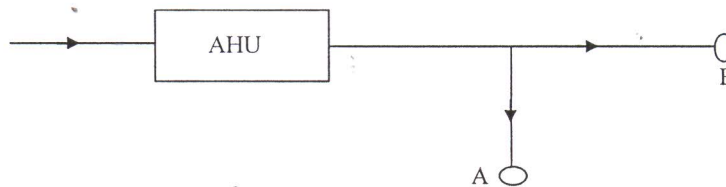
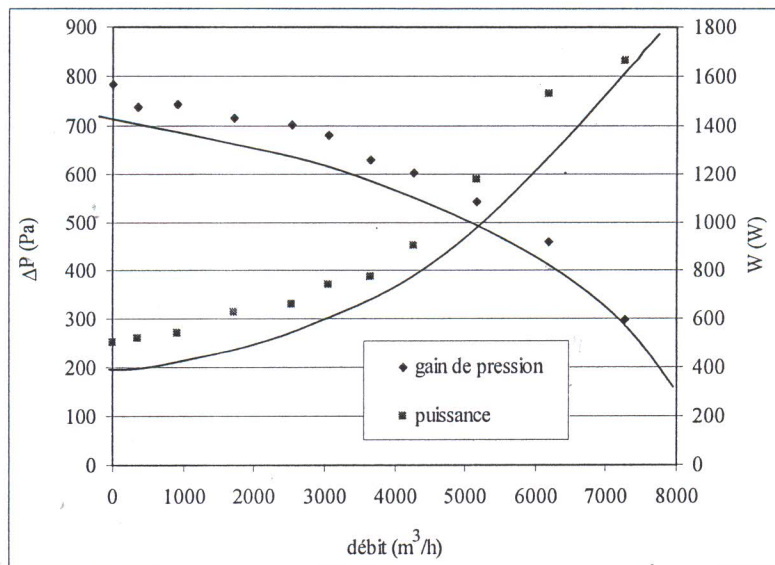

Figure 3: Air distribution network
Figure 4: Characteristics of the selected fan (problem 3)
We consider the air distribution network represented on Figure 3. The desired flows are $5000 \text{ m}^3 / \text{h}$ in the main duct (diameter 500 mm), $3200 \text{ m}^3 / \text{h}$ in branch A (diameter 300 mm - length 25 m) and $1800 \text{ m}^3 / \text{h}$ in the branch B (diameter 250 mm - length 28 m). We wish to use the fan, to ensure this flow rate. The fan characteristics are given on Figure 4 and in Table II.
- (b) Determine the point of operation of the installation if the fan feeds the network of Figure 3. This operation is it as per the specification?